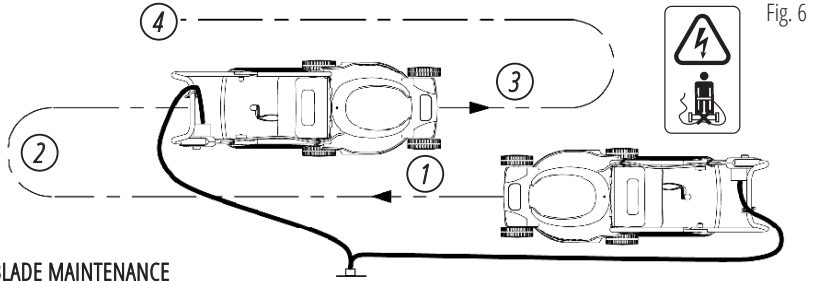

Fig. 6
MOWING (Fig. 6)
- Proceed as shown in Fig. 6.